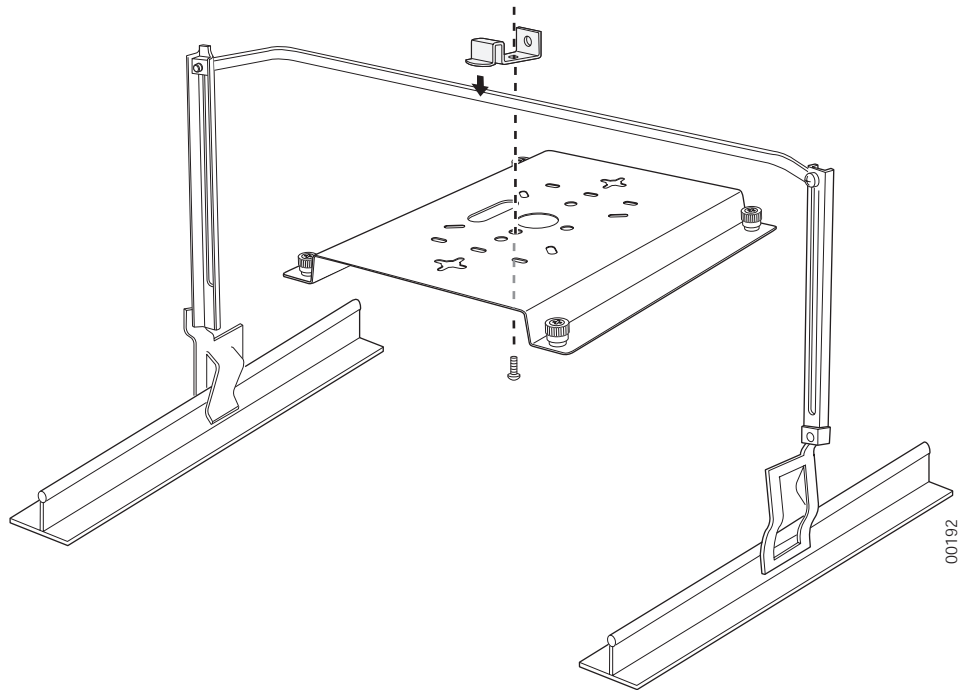

Figure 48: Attaching the Mounting Bracket to the Box Hanger
4. Attach the U-joint of the clip to the T-bar and snap in place (see Figure 48).
5. Pass the long end clip through the large center hole to the underside of the the mounting bracket clip and then attach the bracket to the clip using the supplied screw (see Figure 48 for orientation).
7. Adjust the height of the box hanger using the height adjusting screws (see Figure 48).